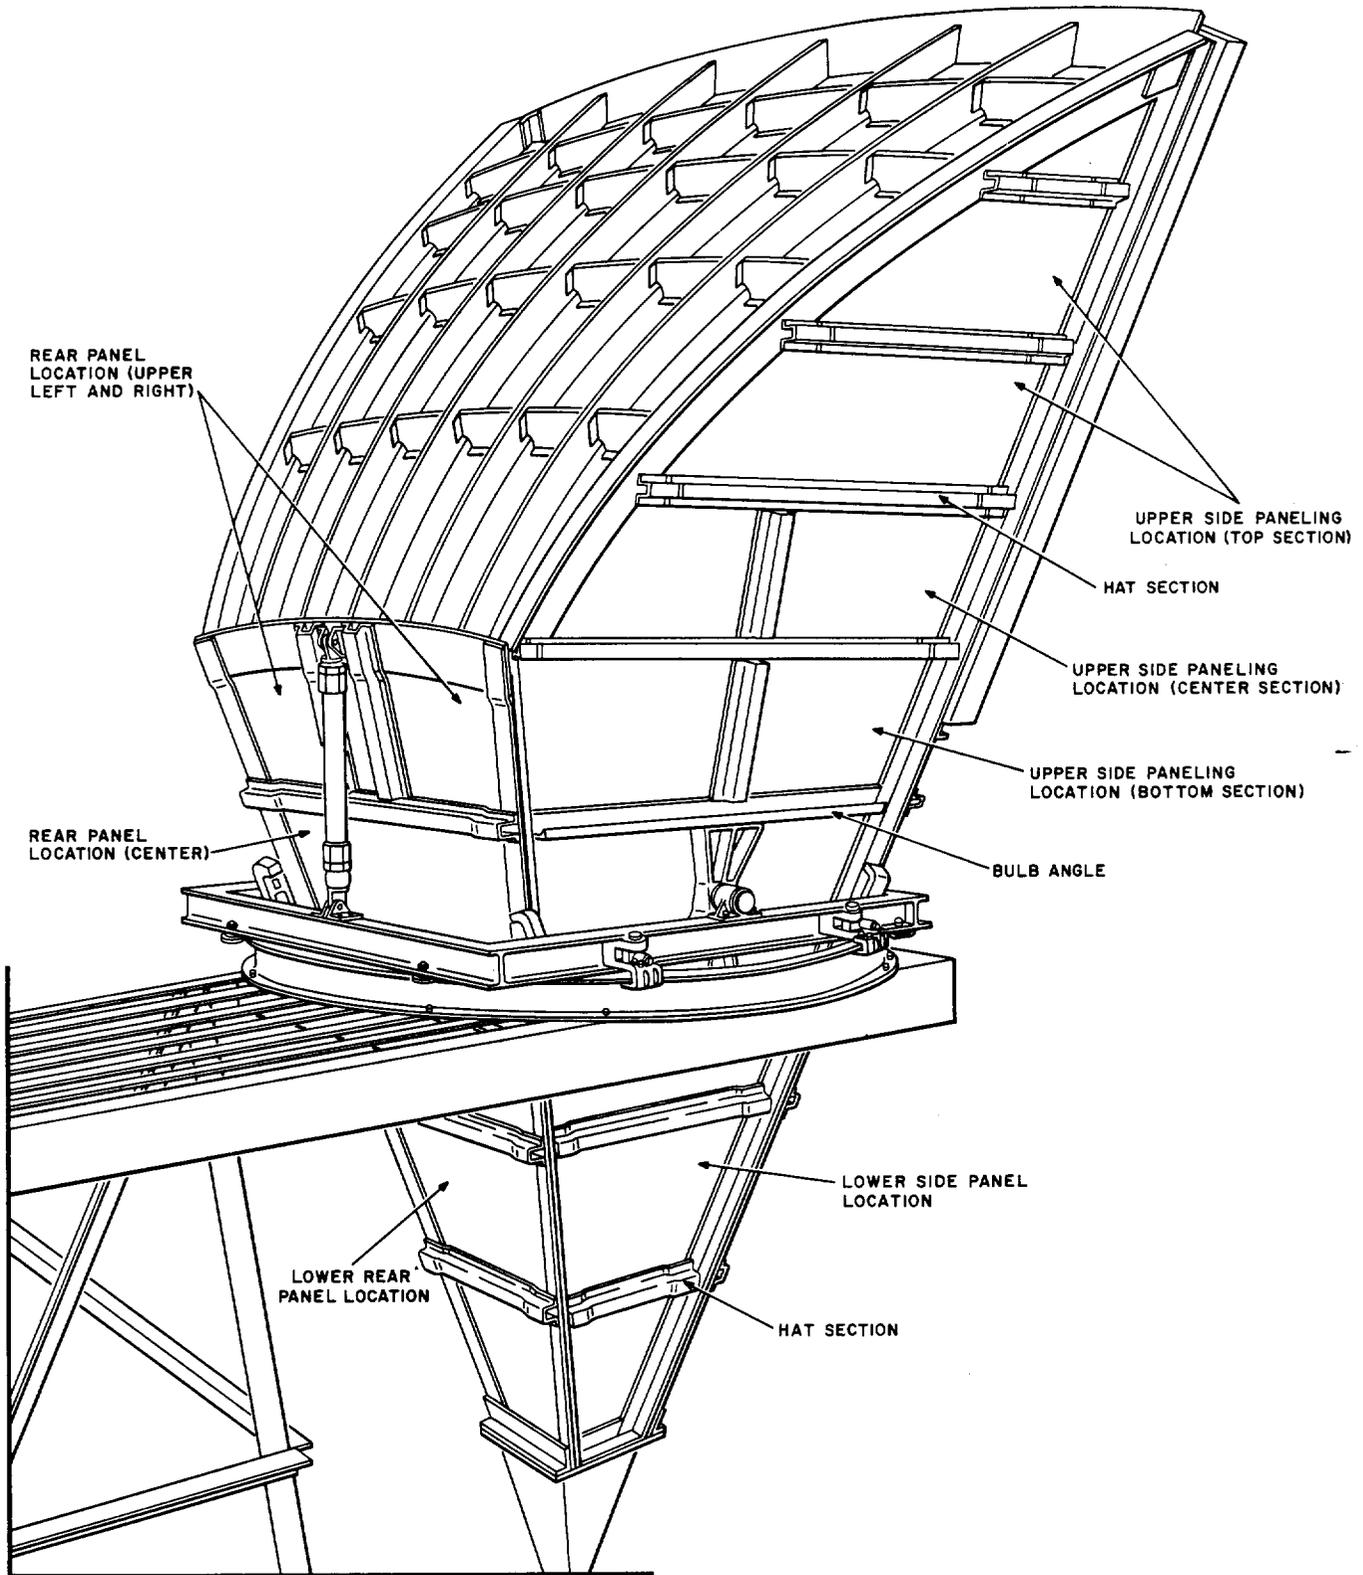

Fig. 1 — KS-15676 Horn-Reflector Antenna
**1.02** Hardening of the KS-15676 L8 or L9 horn-reflector antenna is accomplished by reinforcing the lower edge of the window or weather cover and by adding an external skin of aluminum to the existing structure. The modified antenna will withstand blast overpressures of approximately 2 psi without suffering structural damage or affecting transmission. The modification kits can be applied to tower-mounted antennas without taking them out of service. Fig. 1 illustrates the KS-15676 horn-reflector antenna and identifies the locations of the major components of the modification kit.